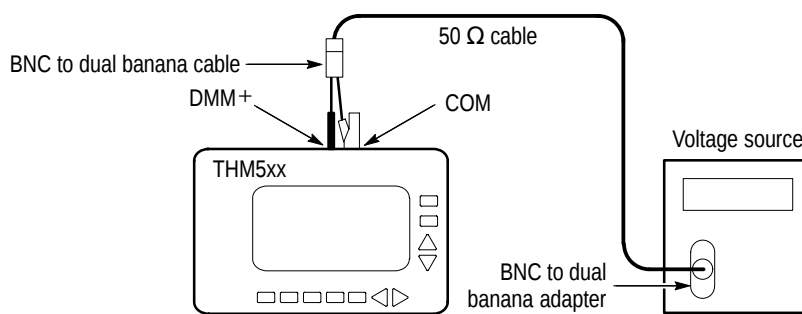

Figure 2: DC and AC Voltage Accuracy Test Setups
2. Connect the voltage source output to the THM500 series instrument DMM and COM inputs as shown in Figure 2. Assure that the ground connection for each adapter connects to the common (or ground) connector of its associated instrument.